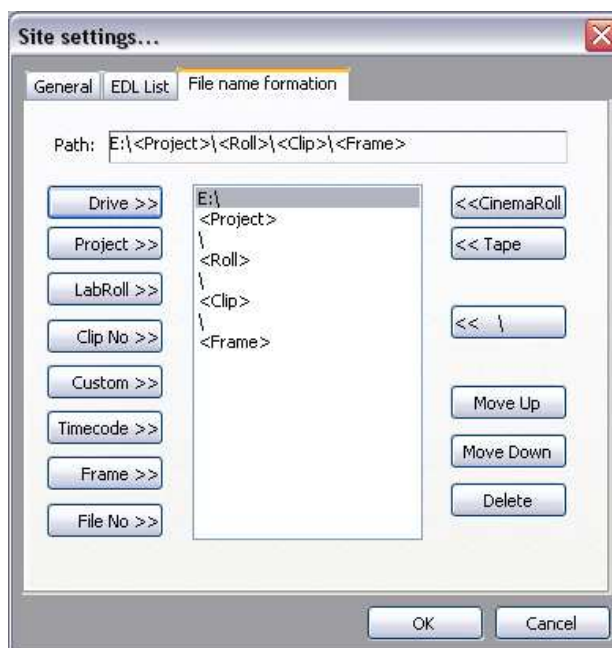

Fig 34 Site Settings **File Name formation**
1. Lace Film left to right missing the feed and take up sprockets and run the film straight from the Feed Compliance arm to the Take Up compliance arm via the PTR (Particle Transfer Roller) rollers to the take up film core. Lace as A or B wind depending on the wind direction of the supplied film rolls. (See Fig 34).